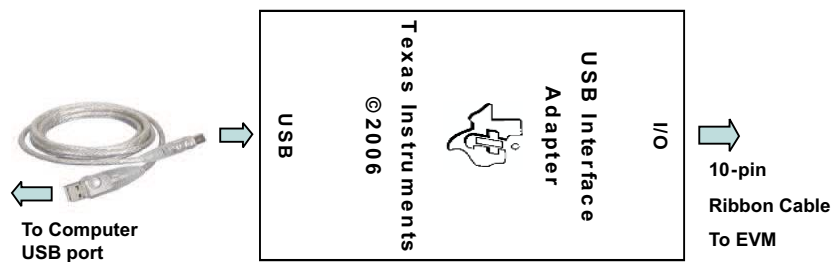

Figure 1. Connections of the HPA172 Kit
- (A) Set the Power Supply 1 for 5 V \pm 100 mVdc, 2 \pm 0.1-A current limit and then turn off supply.
- (B) Connect the output of Power Supply 1 in series with a current meter (multimeter) to J1 (DC+, DC-).
- (C) Connect a voltage meter across J1 (DC+, DC-).
- (D) Connect the Load 2 in series with a current meter (multimeter) to J2 (BAT+, BAT-). Make sure a voltage meter is connected across J2 (BAT+, BAT-). Turn on the Load 2. Use the constant voltage mode. Set the output voltage to 2.5 V.
- (E) Turn off Load 2.
- (F) Connect J5 to HPA172 kit by 10-pin ribbon cable. Connect the USB port of the HPA172 kit to the USB port of the computer. The connections are shown in Figure 1.